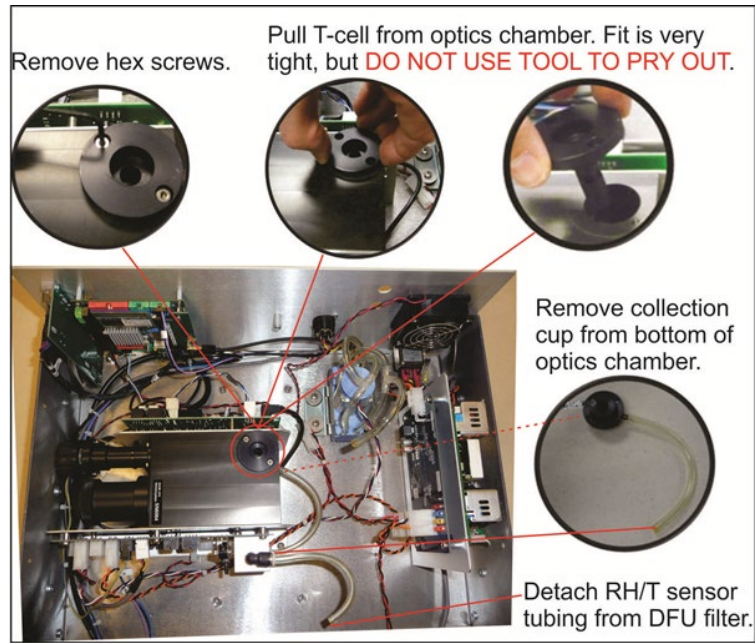

Figure 7. Maintenance: Optical Chamber Disassembly.
14. Remove the optical cell from the optics chamber, and remove the cup, including its tubing, from the optics chamber bottom; detach the RH/T sensor tubing from the DFU filter (Figure 7). It is very important that all components are disassembled before blowing air into the chamber.